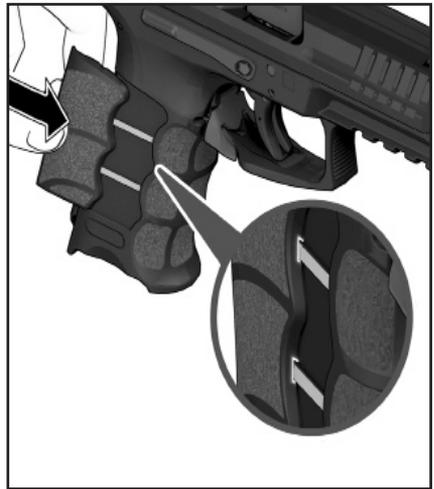

Figure 13
2. Install the two grooves on the inside of each grip panel onto the corresponding tongues located on the outside of the frame (Figure 12 and Figure 13) and push the panels forward until they seat flush into the frame.